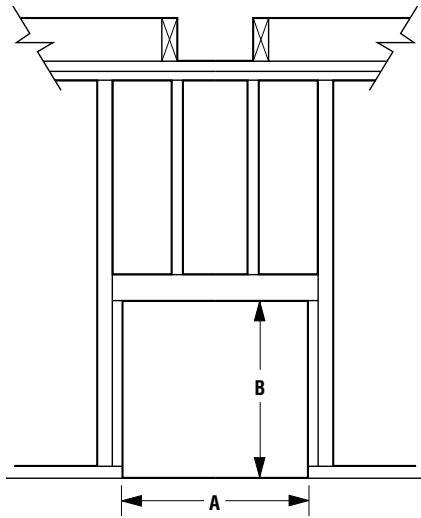

Figure 11
**Step 3.** Refer to fireplace drawings and specifications on pages 6 and 7 for framing dimensions and details. Frame appliance enclosure as illustrated in *Figures 11 through 14* on page 7.